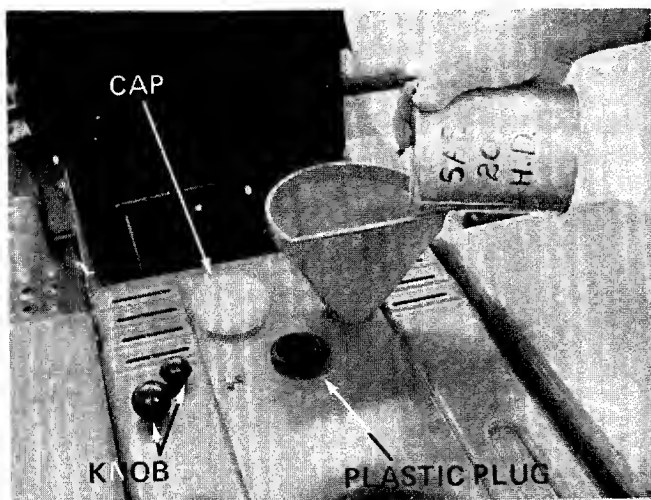

FIGURE 12.
4. If it is necessary to add oil, remove the plastic plug, unscrew the cap on the reservoir/expansion tank and add oil through the hole with a funnel. Do not overfill. See figure 12.